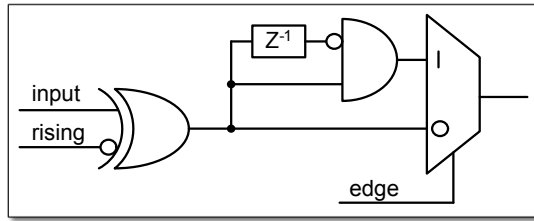

Figure 2.14: The digital inputs TDC0, TDC1, TDC2, TDC3, TRG, and GATE have simpler trigger units.
The trigger unit input logic is summarized, as well, in Figure 2.14.
TRG and GATE are configured analogously to the TDC inputs (see Section 1.3.4 and Figure 2.14), where indices 4 (5) and *NDIGO6G12_TRIGGER_TRG* (*NDIGO6G12_TRIGGER_GATE*) correspond to input TRG (GATE).
- The four TDC and the two digital control inputs (Figure 2.14)